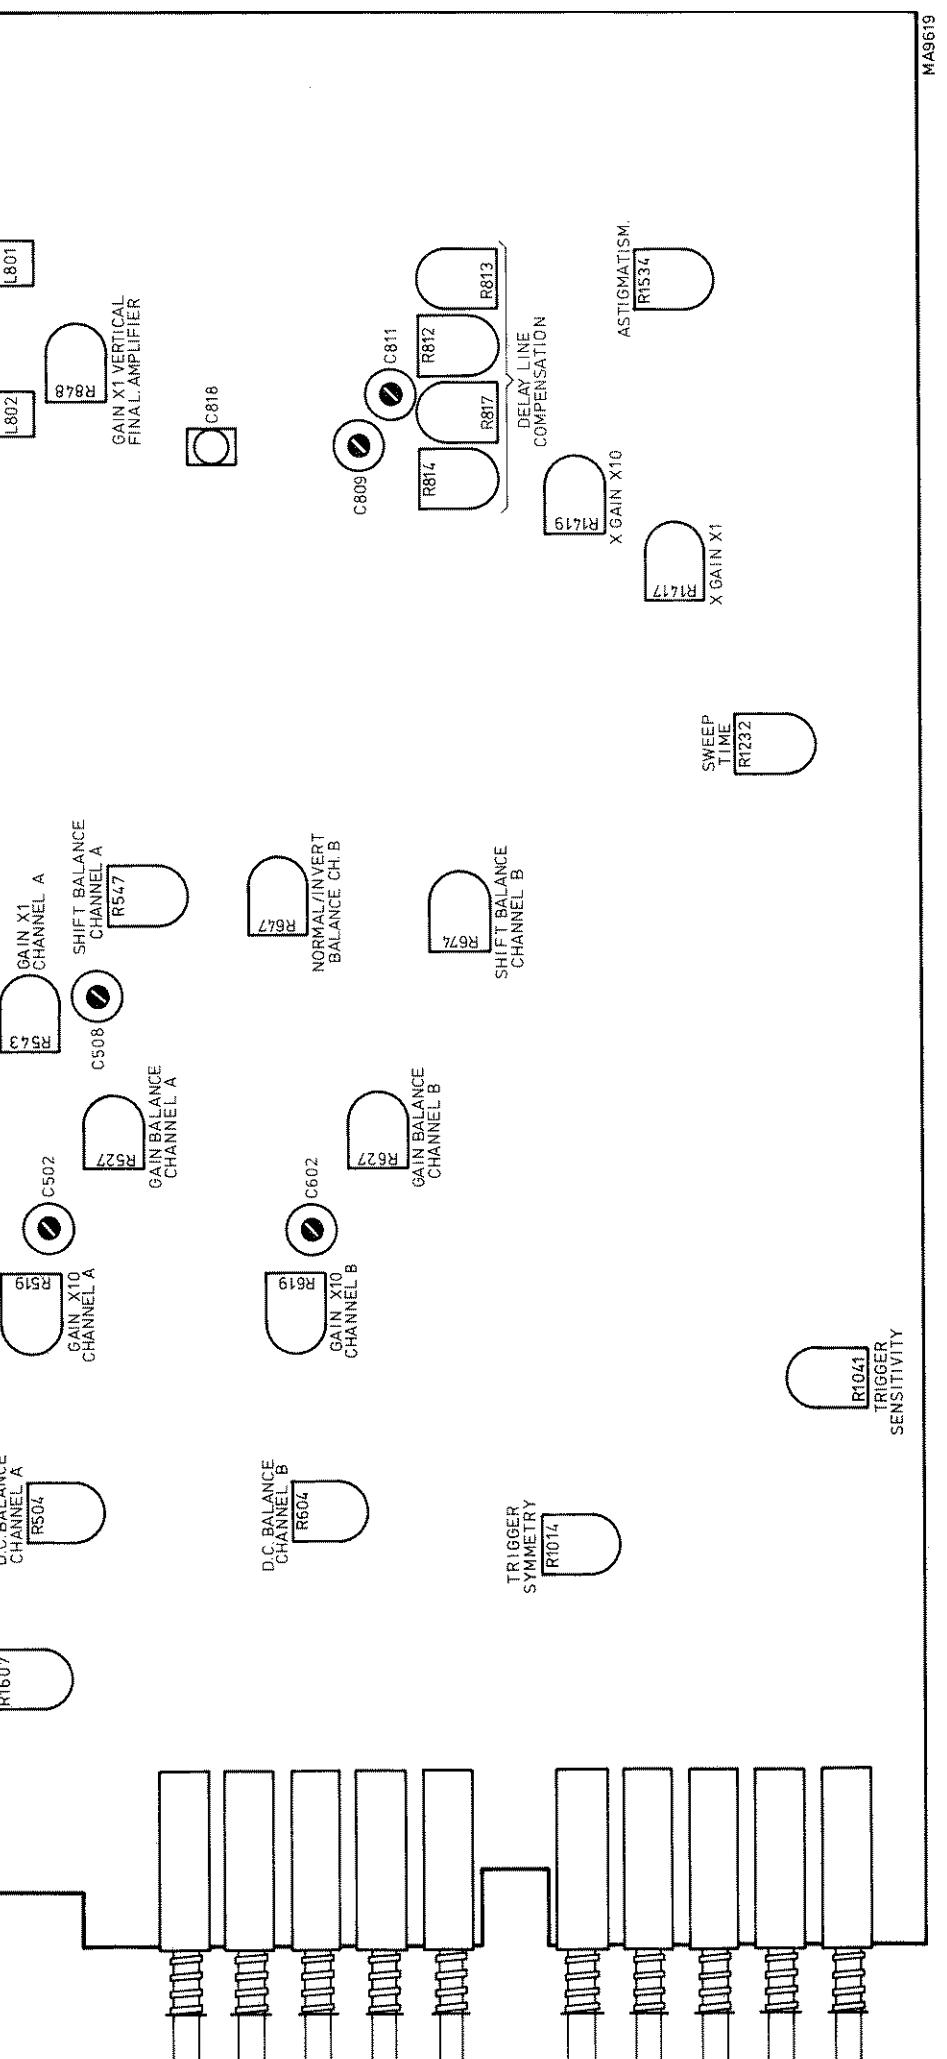

Fig. 3.17 Adjusting elements amplifier board
- Release input coupling switch S12 to (DC).
- Release input coupling switch S13 (0).
- Find the lowest possible input signal at which it is still possible to obtain a triggered trace with the aid of LEVEL potentiometer R5 and potentiometer R1041 (Fig. 3.17).
- Check that the voltage on the CAL output socket is $1.2 \text{ V} \pm 1\%$. If necessary readjust potentiometer R1607 (Fig. 3.17).